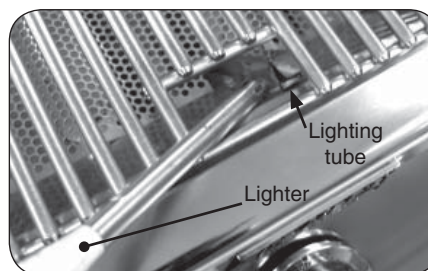

Fig. 21-2 - Manual lighting
2. Insert either a burning long-barrel butane lighter or a burning long-stem match through the cooking grid opening to the top of the lighting tube. (Fig. 21-2). For backburners, hold the flame against the surface of the backburner.
4. If the burner does not light, **immediately depress the knob and turn the valve to OFF**. **WAIT FIVE (5) MINUTES** before repeating steps 2 through 4 of the MANUAL LIGHTING instructions.